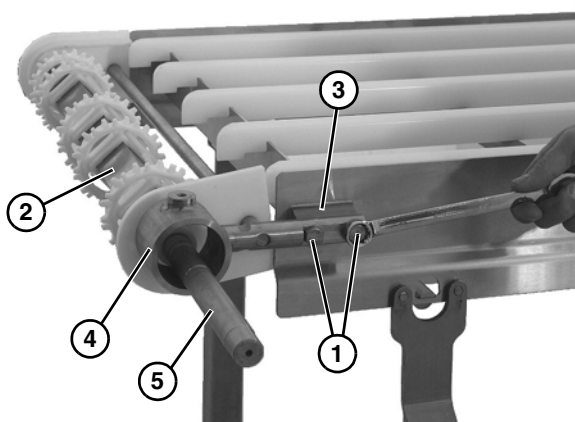

Figure 57
- Remove two bolts (**Figure 57, item 1**) on each side, and slide the drive tail assembly (**Figure 57, item 2**) off the mounting posts (**Figure 57, item 3**).
- Slide the motor support bracket (**Figure 57, item 4**) off the drive spindle shaft (**Figure 57, item 5**).